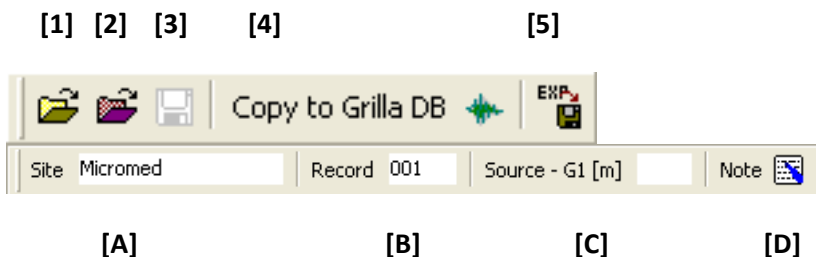

Figure 16. Detail of the main window toolbar (Figure 15).
- 3) set a name for the acquisition folder by filling the text box *Site* and *Record* in the main window toolbar (Figure 16). In this manual we call this folder [Your site]⁴,
Click RUN on the main window toolbar (Figure 16) to start visualizing the recordings, which will appear as in Figure 20.
Recordings saved under this mode can be copied to and analyzed with the *Grilla* software. Copy single .trc files by using the *Copy to Grilla DB* button (element [4] in Figure 16).